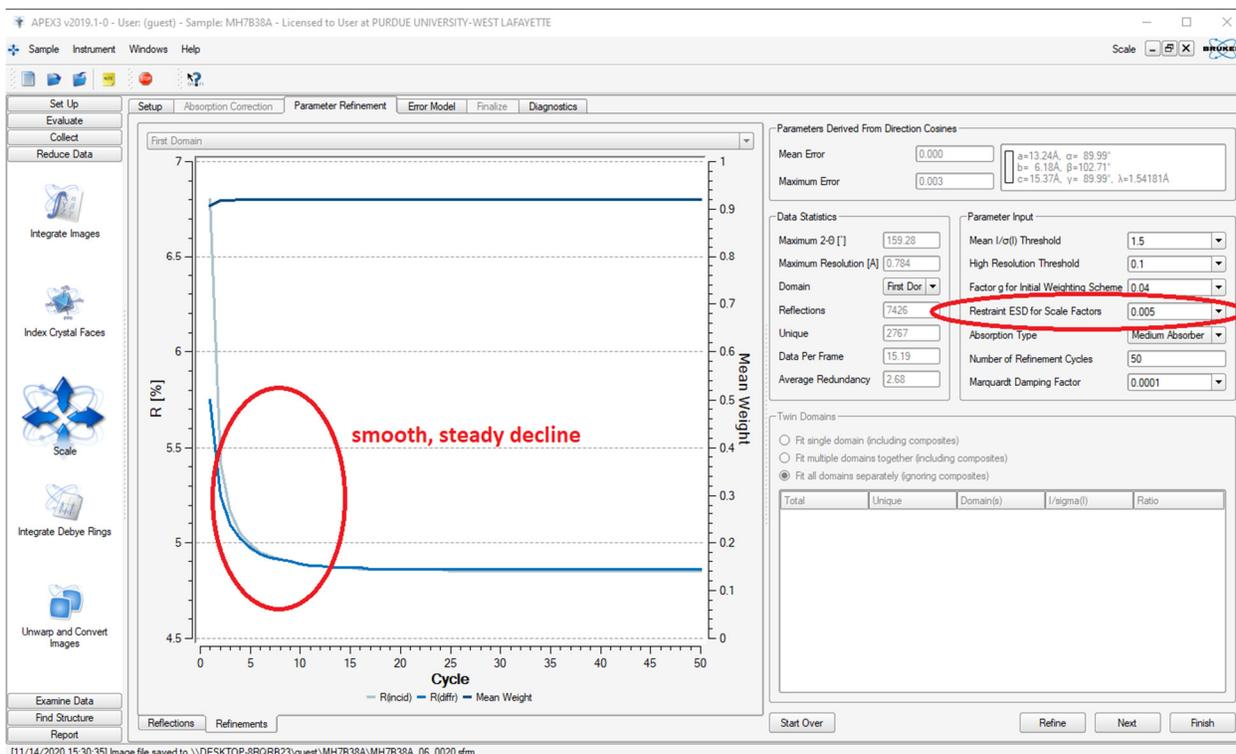

Figure 27, Absorption Correction window (second Scale Window) after refinement
- Click <Refine>, wait for the refinement to finish and inspect the results. The parameter refinement curve should show a smooth and steady decline (as in Fig. 27) and the final R value should be reasonably low. Large up and down fluctuations in R[%] combined with higher than expected R values could be a sign that scaling and absorption correction effects are highly correlated. This can especially be a problem for heavily absorbing crystals that are also aspherically shaped when a small beam size (microsource) is used. If the refinement results appear less than ideal, select a higher value for <Restraint ESD for Scale Factors> and repeat the parameter refinement (click <Refine> once more). Default is 0.005, the maximum allowed value is 0.02. Check if the refined data are indeed improved via a Shelxl refinement, otherwise use the defaults!